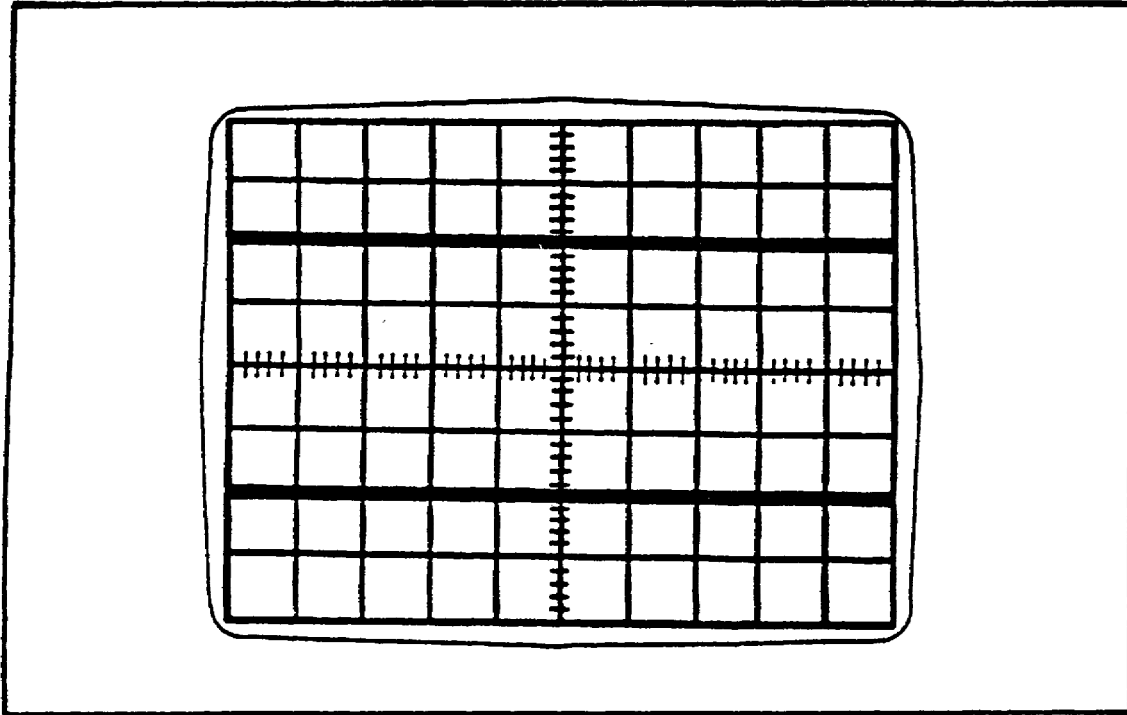

FIGURE 6. DUAL TRACE - NO SIGNAL APPLIED.
Step 15. Press the VERT MODE ALT switch in. The dual trace should now appear on the screen (see figure 6, below).